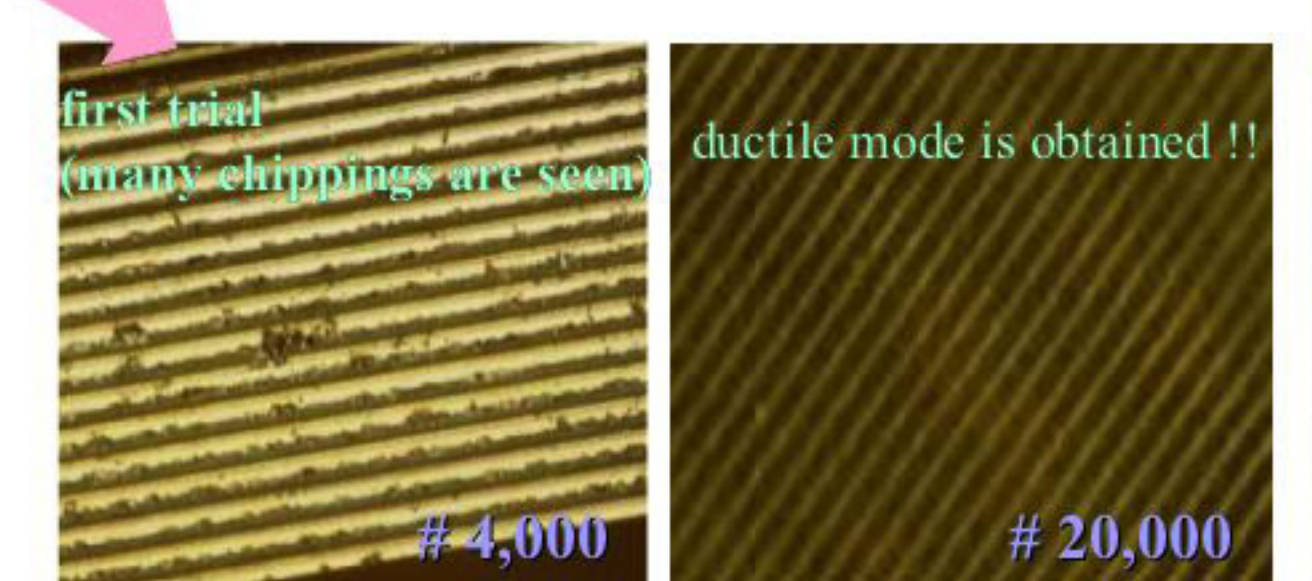

Figure 3: Results of processing tests on a ZnSe piece by ELID method
- ❖ under the test groove processing on ZnSe pieces using the ELID grating method. See figure 3.